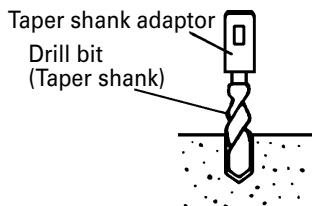

Fig. 9
- (1) Install drill bit with taper shank in the taper shank adaptor. (Fig. 9)